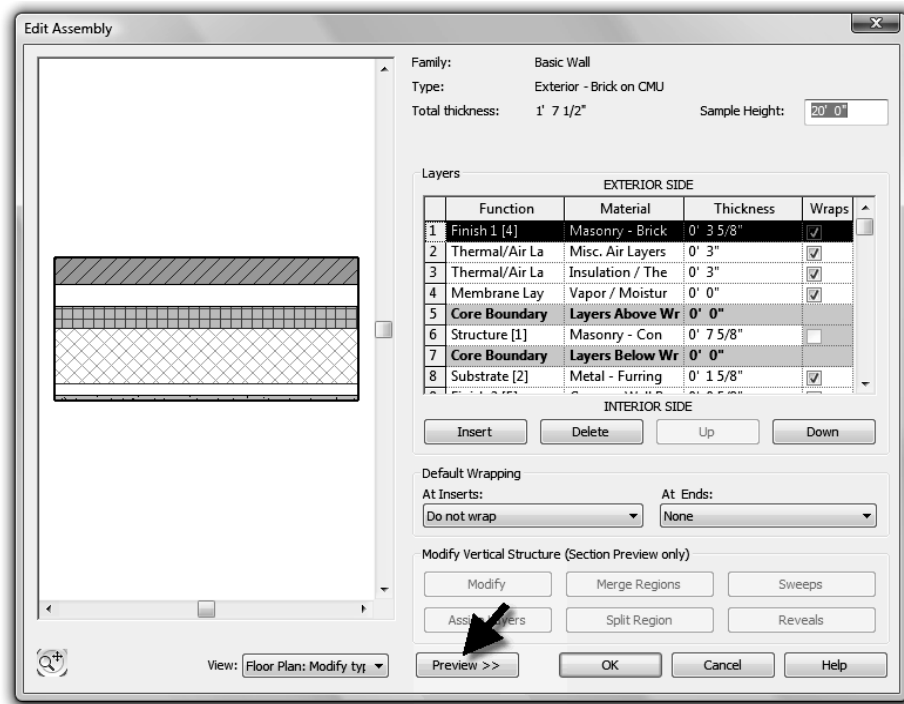

FIGURE 3-2.5 Edit Assembly
7. Finally, you are in the *Edit Assembly* dialog box. This is where you can modify existing wall types or create new ones. Click <<Preview to display a preview of the selected wall type. (Figure 3-2.5)
Things to notice in the *Edit Assembly* dialog box (Figure 3-2.5):